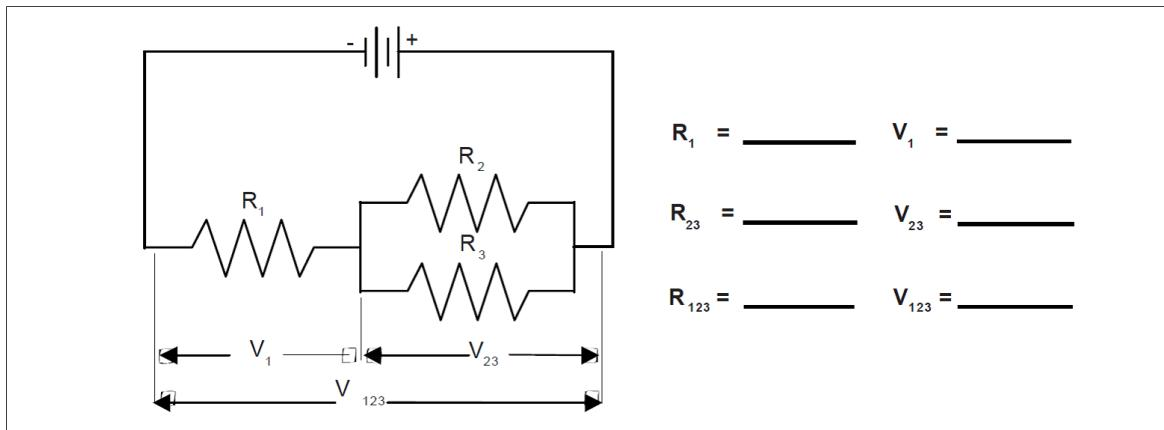

Figure 12: A diagram of the combination circuit
4. Now connect the combination circuit below (see figure 12) and measure the voltages and resistances in each combination. Write down your values in figure 12.
7. Do the voltages in your combination circuits (figure 12) follow the same rules as they did in your circuits which were purely series or parallel? If not, state the rules you see in operation.